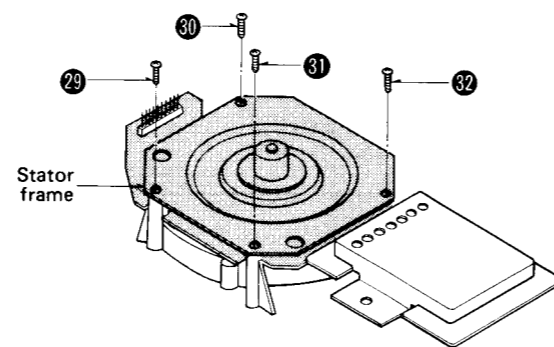

Fig. 4
2. Remove the stator frame setscrews ㉙ ~ ㉛. Then the stator frame can be removed. (Fig. 4)